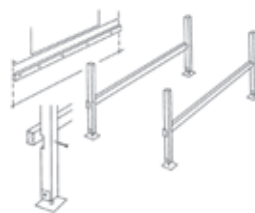

Fig 9 Fix bearers to posts.
■ Fix the remaining bearer to the posts using either a housing joint or framing anchor (Fig 9).